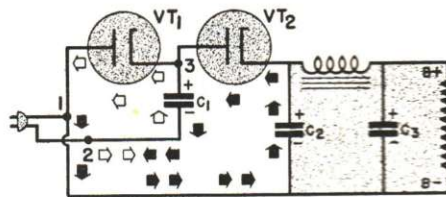
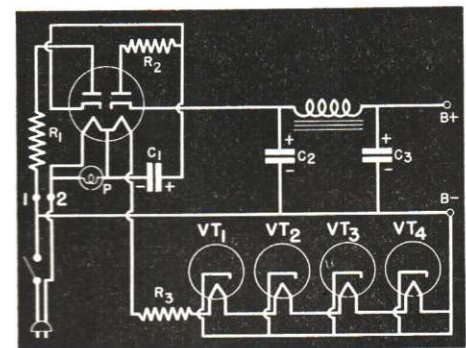

FIG. 13. The half-wave voltage doubler.
FIG. 14. A typical commercial half-wave voltage doubler.
Like the full-wave voltage doubler, the half-wave voltage doubler uses a condenser as a voltage source—but as a source of voltage for a rectifier tube. Fig. 13 shows the basic circuit.
► Notice that the B— terminal connects to one side of the power line in Fig. 13. This means that when the filament string is connected across the power line, there will be no d.c. volt-
A complete half-wave voltage-doubler circuit is shown in Fig. 14. The action is identical to that of Fig. 13 as far as the B supply is concerned. Protective resistors R_1 and R_2 are used in series with the plates; also the pilot lamp P and its shunting section of the filament are between condenser C_1 and terminal 2—which is another protective feature. The current flow